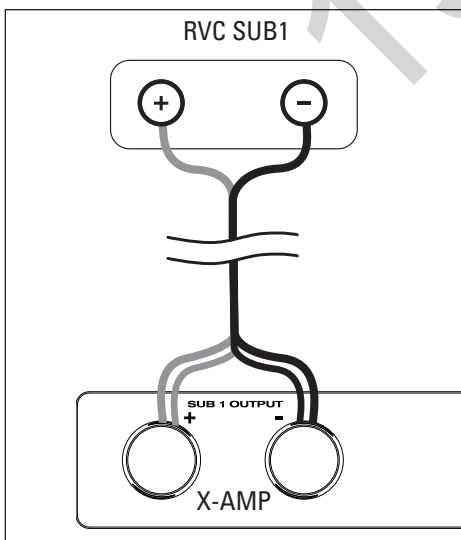

Fig. 6b X-300 or X-850 Amp / 1 RVC Sub
**Connecting One RVC Subwoofer** (Fig. 6b): Connect Red (+) speaker cable to positive SUB 1 (+) Output and Black (-) speaker cable to SUB 1 (-) Output.